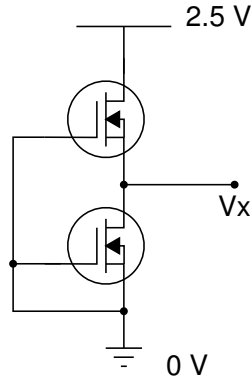

Figure 4: NMOSFETs with grounded gates.
13. Consider the circuit in Figure 4. Write an expression for the voltage at  $V_x$ . You may assume that  $n=1$  to simplify calculation. We won't define  $n$  here, but when you figure it out, you will know you are on the right track. There is no need to calculate a number; giving an expression is sufficient.